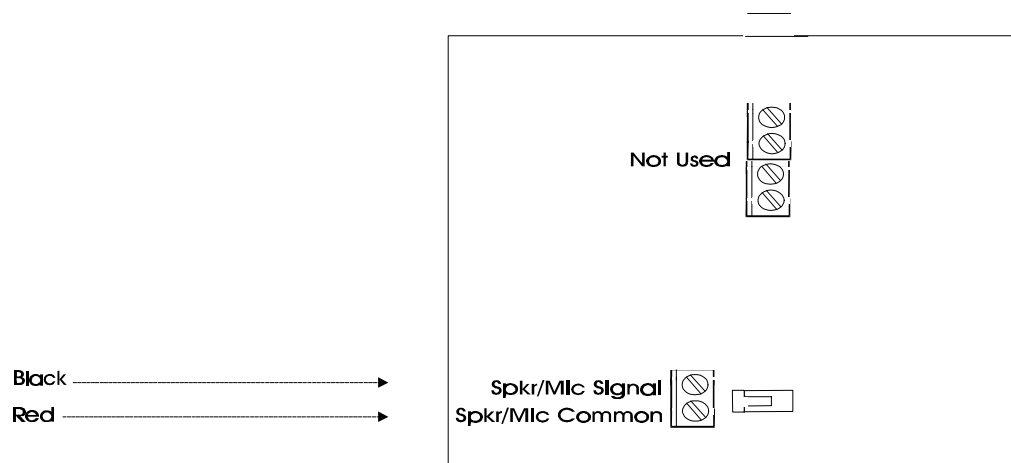

Figure 9
6. Connect red wire to spkr/mic signal position of two position terminal block on 602 pcb. Connect black wire to spkr/mic common position of two position terminal block on 602 pcb (see figure 9).
7. Plug the 2-position header (C) wired to the speaker into the 2-position connector (D) wired to the volume control inside the housing.